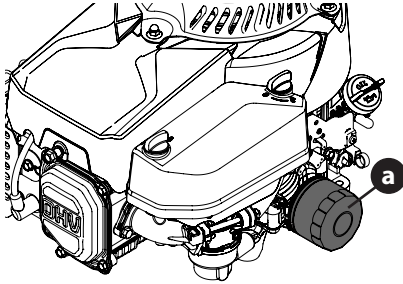

Figure 10
This engine is equipped with a spin-on oil filter that should be replaced each time an oil change is performed, every season or 50 hours (Figure 10).
2. Remove oil filter (a) (Figure 10). Dispose of old oil filter properly.